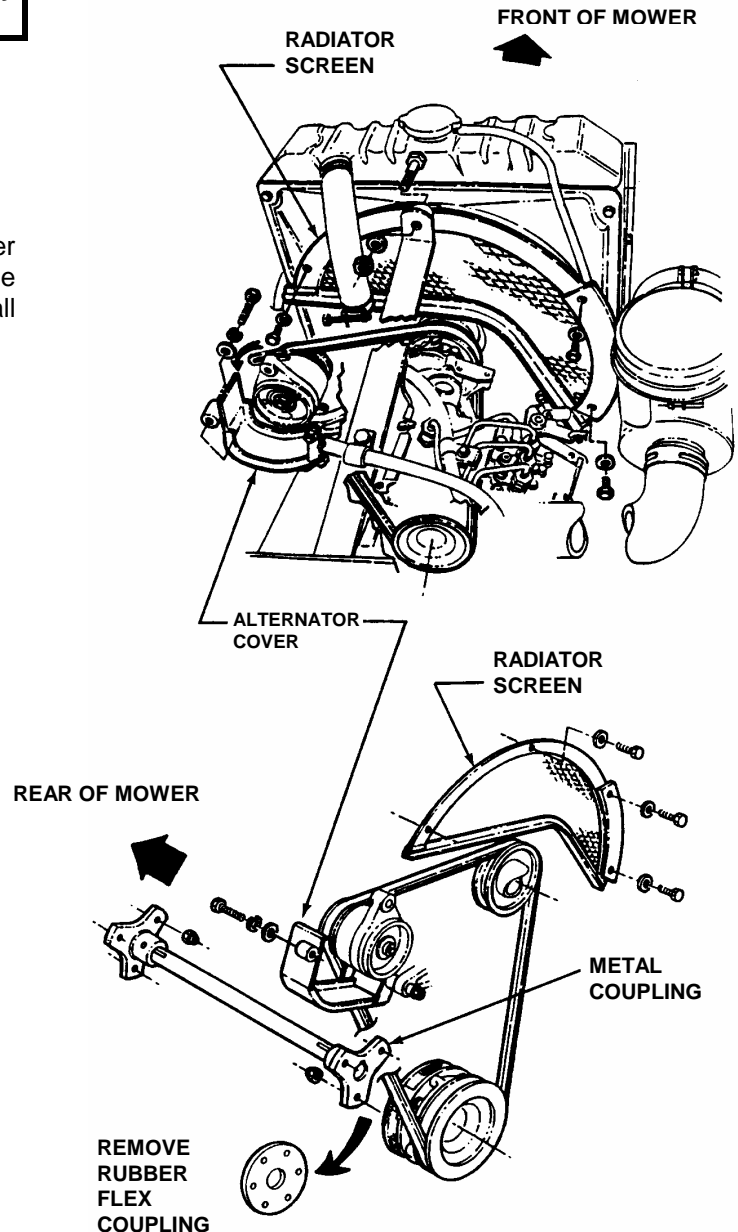

FIGURE 4.9
2. Remove nut and bolt that secure the top portion of alternator cover. Rotate cover to the side. See Figure 4.9.